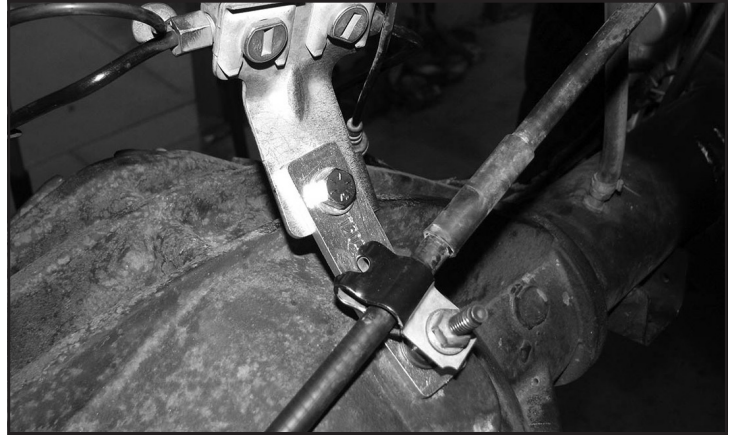

FIGURE 60 - STEP 57
57. Locate FT30496 (Rear Brake Line bracket) Remove the hardware off the factory bracket and install the FT30496 using the factory and supplied 5/16" hardware. Torque to 21 ft-lbs. **SEE FIGURE 60**